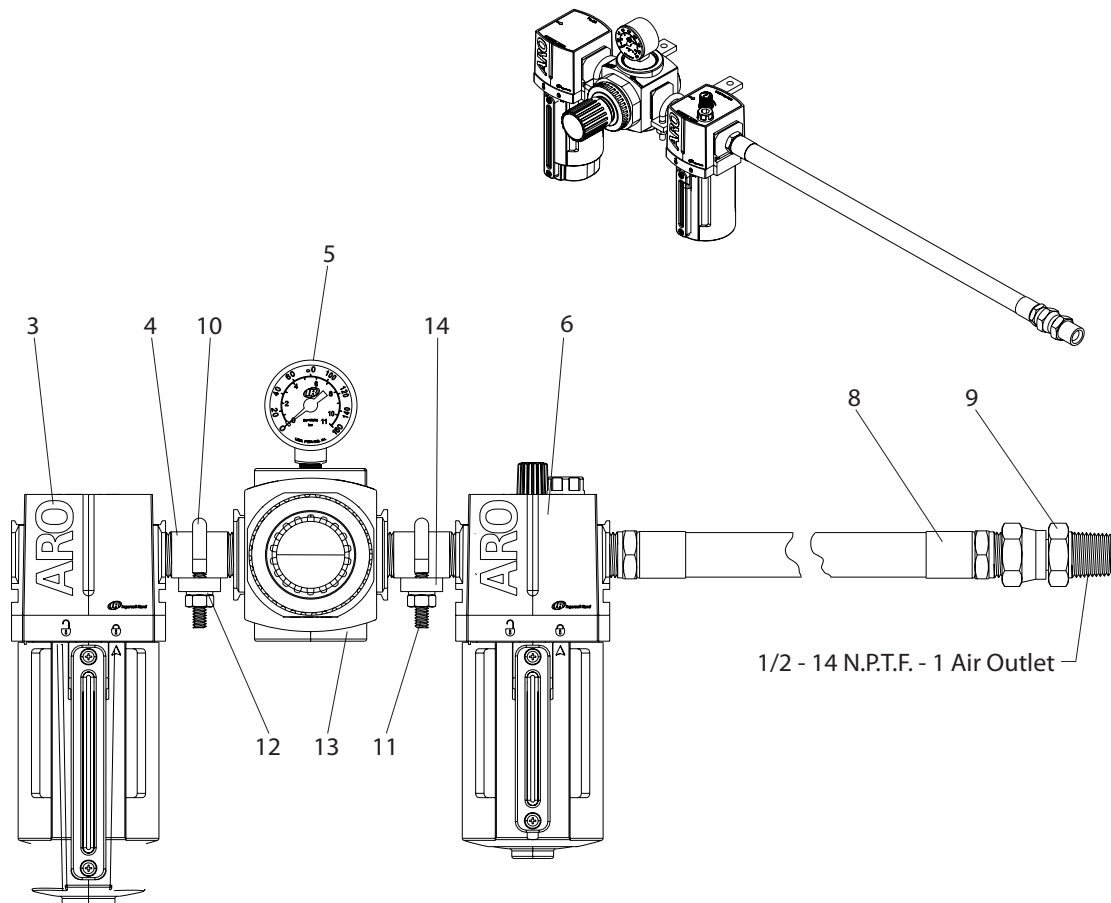
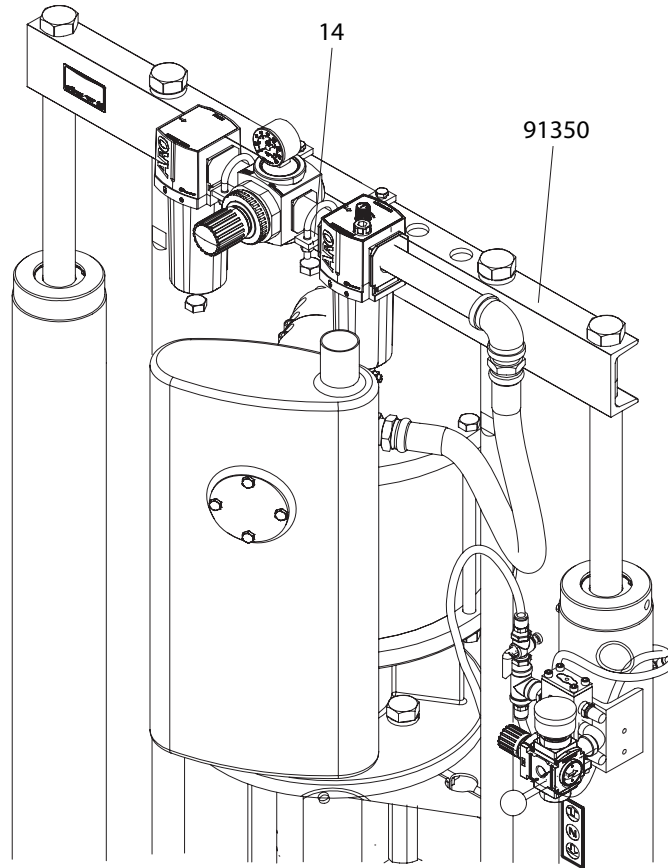

Figure 1
Figure 2
1. Position the two (14) mounting plates on the two post lift mounting arm (see figures 2 and 3).
2. Using four (15) cap screws and four (12) lock washers, fasten the mounting plates to the four holes located on the top of the mounting arm.
secure using two (10) "U" bolts, four (12) lock washers and four (11) nuts (see figures 1 and 2).